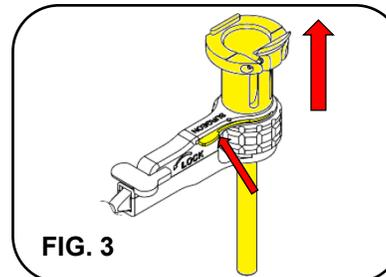

FIG. 3
- 2a. PRESS the cannula latch while pulling the coupler from the cannula adapter. (FIG. 3)